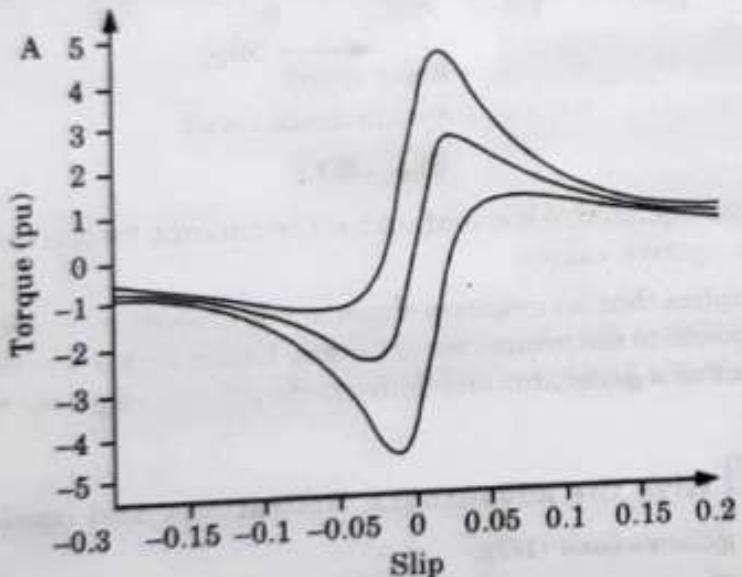

Fig. 1.7.3.
- C. **Characteristics :** The characteristic of doubly-fed induction generator is shown in Fig. 1.7.3.